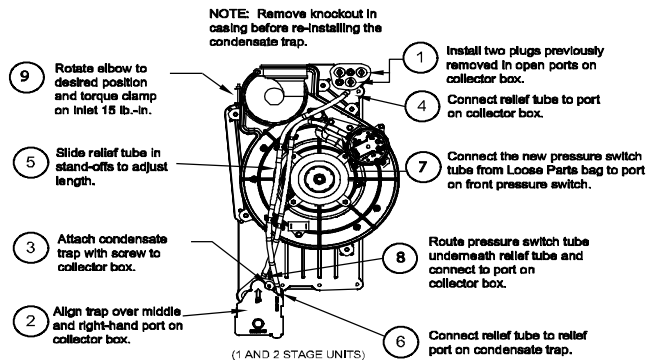

Fig. 12 - Horizontal Left Configuration
When the furnace is installed in the horizontal right position, the condensate trap will be initially located at the bottom of the collector box, as received from the factory. See the top image in Fig. 11. When the furnace is installed in the horizontal left position, the condensate trap will be initially located at the top of the collector box, as received from the factory. See the top image in Fig. 12. In both cases the trap must be repositioned on the collector box for proper condensate drainage. See the bottom images in Fig. 11 and 12.
- Fig. 12 shows the condensate trap and tubing before and after relocation in the horizontal left position.